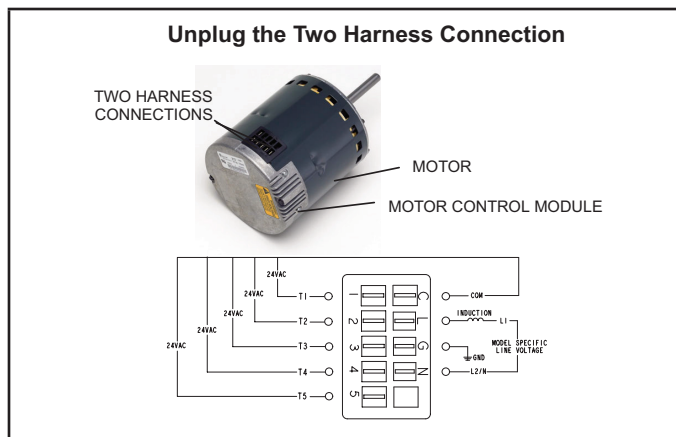

FIGURE 15
- 3 - Unplug the two harnesses from the motor control module. See FIGURE 15.